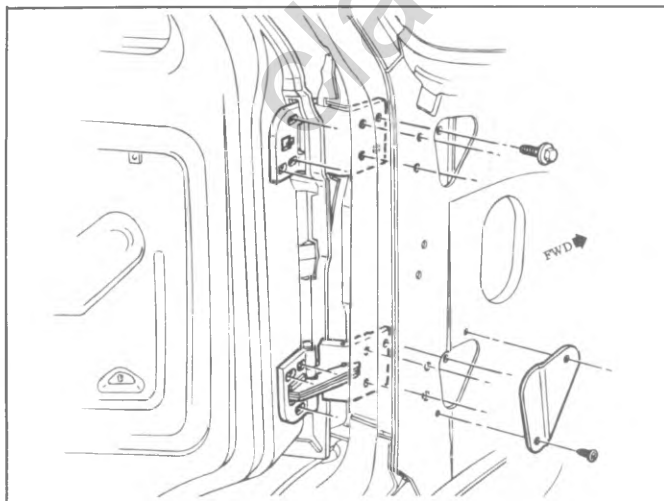

Fig. 2D-106--Door Hinge
3. Remove hinge screws from both body and from door and remove hinge. See figure 2D-106.